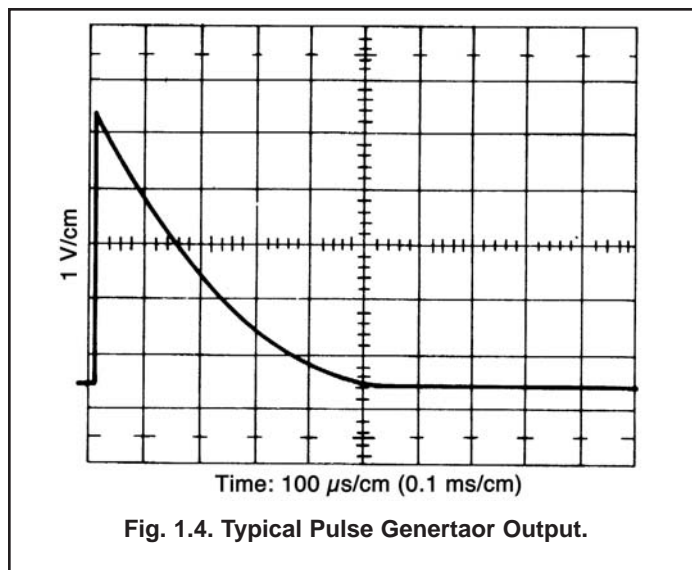

Fig. 1.4. Typical Pulse Generator Output.
4. Trigger the oscilloscope by adjusting the Triggering Level control. If the trace will not trigger, re-check the settings of the parameters in Table 1.1. When the oscilloscope is operating properly, the output should appear approximately as that shown in Fig. 1.4. Note that in Fig. 1.4 the maximum amplitude appears at the beginning and is ~5 V.